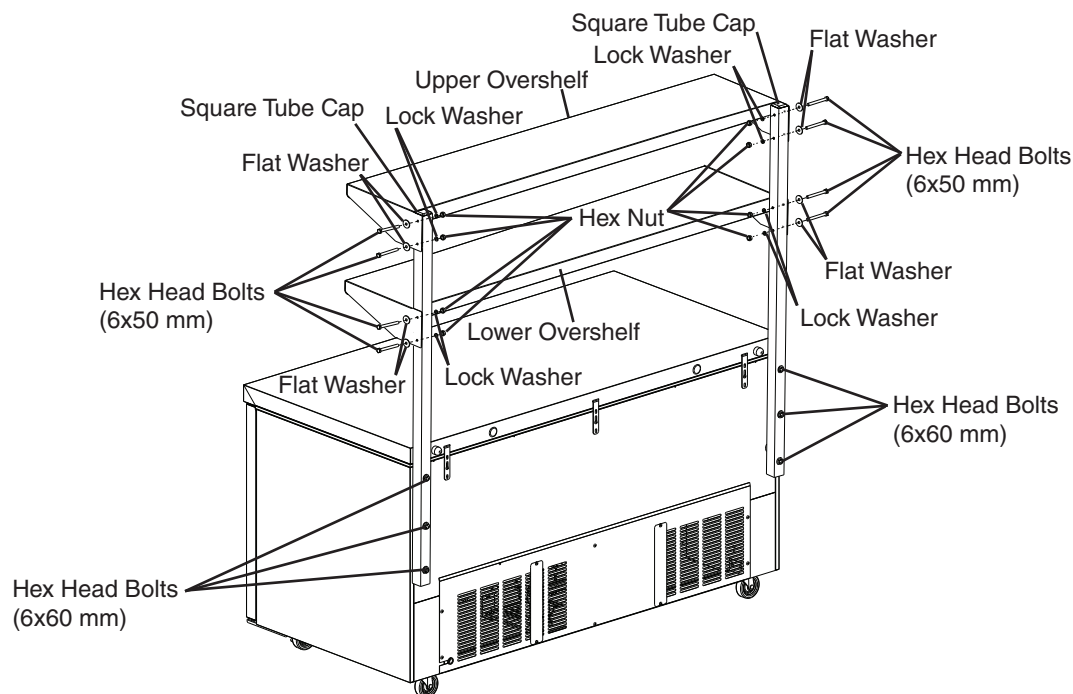

Fig. 2
- 3) **WARNING! Tip hazard. Shelves must face forward.** With the help of an assistant, place a single overshell in position onto the square tube. Using the hex head bolts (1a), flat washers (1d), hex nuts (1c), and lock washers (1b) provided, secure and tighten the overshell to the outside of the square tube. See Fig. 2. For double shelf kits, repeat step 3 to install the second overshell.